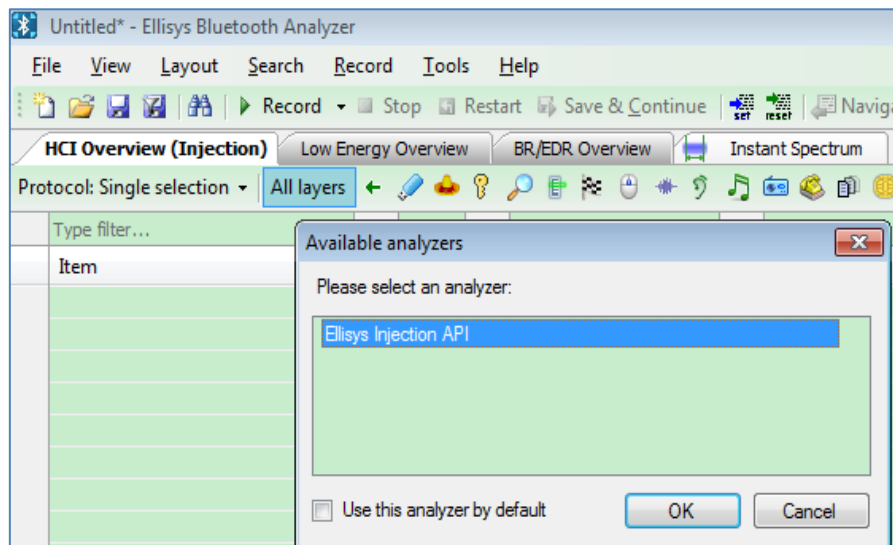

Figure 7-1 Open Ellisys
1. Open Ellisys, as shown in Figure 7-1.